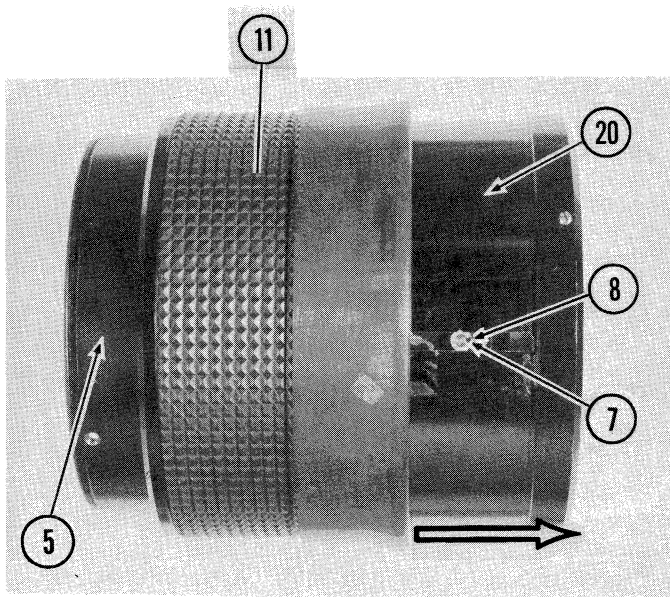

Fig. 12
- 2.1.10 Remove Vinyl Grip (11) from Zoom Collar Ring (20) by "rolling" it forward "like a stocking". (Fig. 12)
- 2.1.11 Remove acetate tape covering slots in Zoom Collar Ring, and remove Roller Shaft (7) and Roller (8) from each side of Ring. (Fig. 12)
- 2.1.12 Slide Zoom Collar Ring rearward off Inner Focus Ring (5). (Fig. 12)